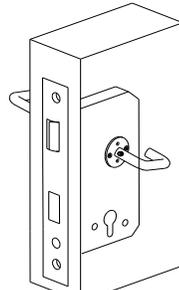

Fig 6
- 4) Depress the levers as shown in Fig 6. Lever should retract both latchbolt and deadbolt simultaneously from the direction of escape.